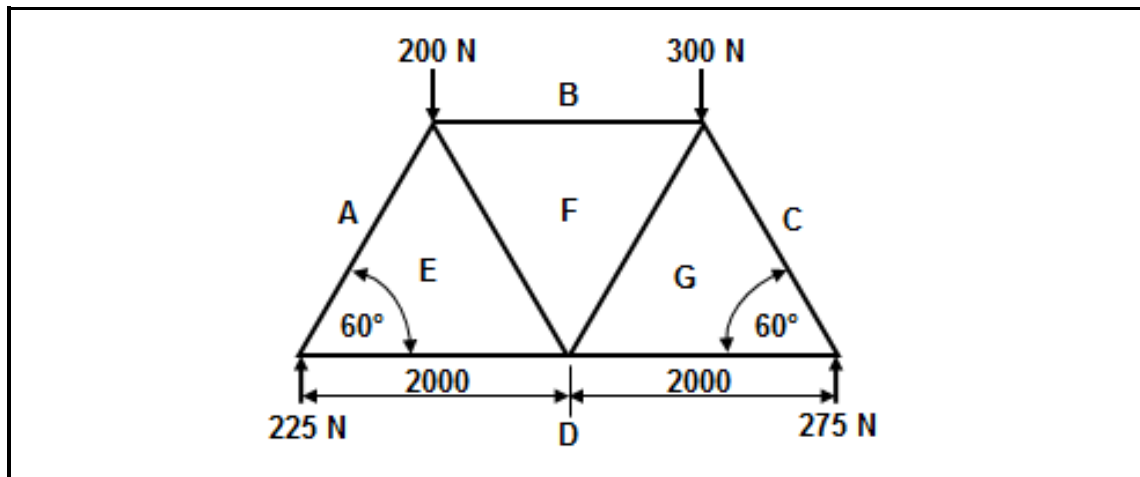

FIGURE 7.1
- 7.1 Determine graphically (Bow's notation) the magnitude and nature of ALL the members of the framework in FIGURE 7.1 below.